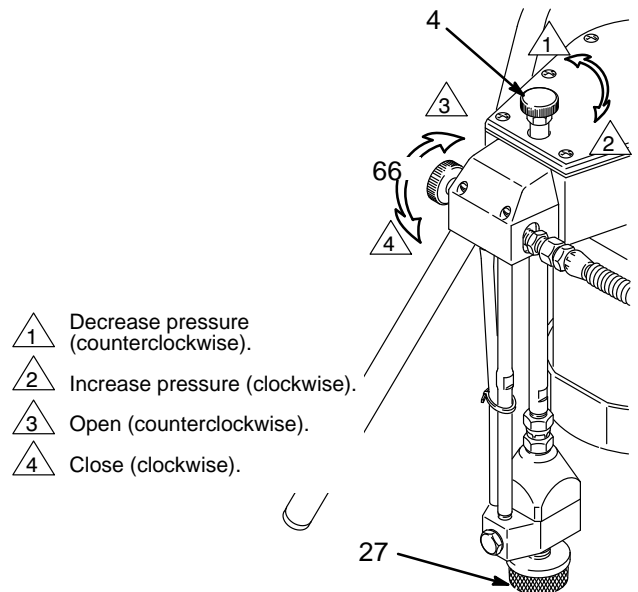
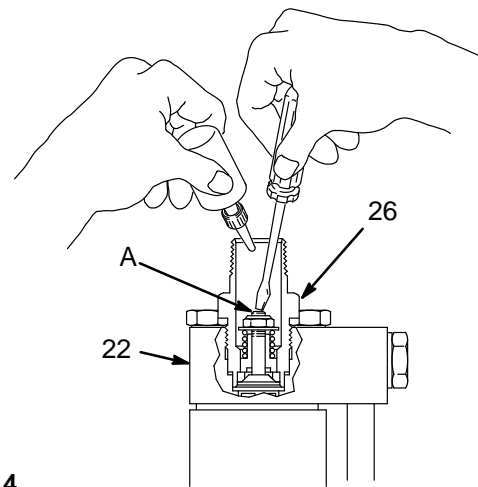

Fig. 3
Fig. 4
1. Open the bypass valve (66) ONE turn **counterclockwise**. Do not place the pump intake in the pail yet. See Fig. 3.
2. Turn the pressure control fully (4) **clockwise** to increase pressure. See Fig. 3.
3. Remove the inlet strainer (27) and place your hand over the inlet valve to be sure it is drawing a vacuum.
NOTE: If the inlet valve (26) is not drawing a vacuum, turn the sprayer OFF. Turn the sprayer over. Press down on the stem (A) inside the inlet valve lightly with a small screwdriver, and pour about a teaspoon of mineral spirits or solvent into the valve. See Fig. 4. Release the valve and turn the sprayer upright. With the pressure turned up, turn on the sprayer. This should free any sticking parts in the pump. Now check again for a vacuum. Shut off the sprayer and install the inlet strainer (27).
5. Turn the sprayer ON and allow the paint to circulate through the bypass valve (4) for one or two minutes.